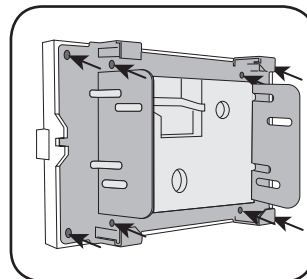

Fig. 1.18
2. Mount the radio bracket to the back of the VW1 bezel using the (4) four supplied Phillips screws. Secure the screen to the bracket using the hardware provided with the Pioneer radio. (Fig. 1.18)